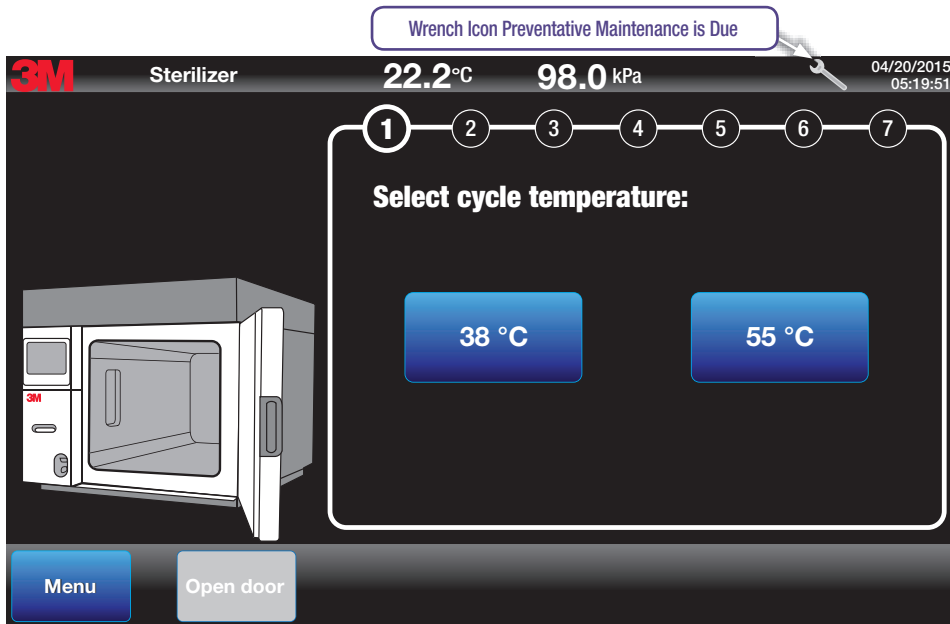

Figure 63.
Performing preventive maintenance, at scheduled intervals, is a critical part of ensuring the 3M™ Steri-Vac™ Sterilizer/Aerator GS Series continues to function properly. Complete maintenance at routine scheduled intervals of a maximum of every six (6) months. A **wrench icon** will appear on the display screen when maintenance is due (Figure 63). There are no user-serviceable parts; use only 3M Health Care service personnel or authorized 3M service personnel for maintenance.